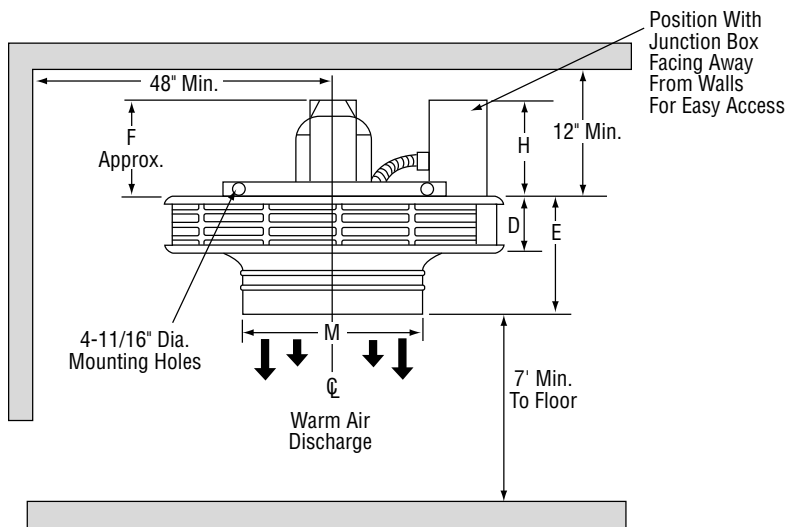

Figure 1
2. It is important that the 12” minimum dimension shown in Figure 1 be maintained to make it possible for a serviceman to remove the fan motor, if necessary, without moving the heater from its mounting.
3. The heater may be mounted to the ceiling by attaching rigid angle brackets, hangers, or chains to the four mounting holes on the top of the heater case using four 5/8” bolts (by others). See Figures 1 and 2.